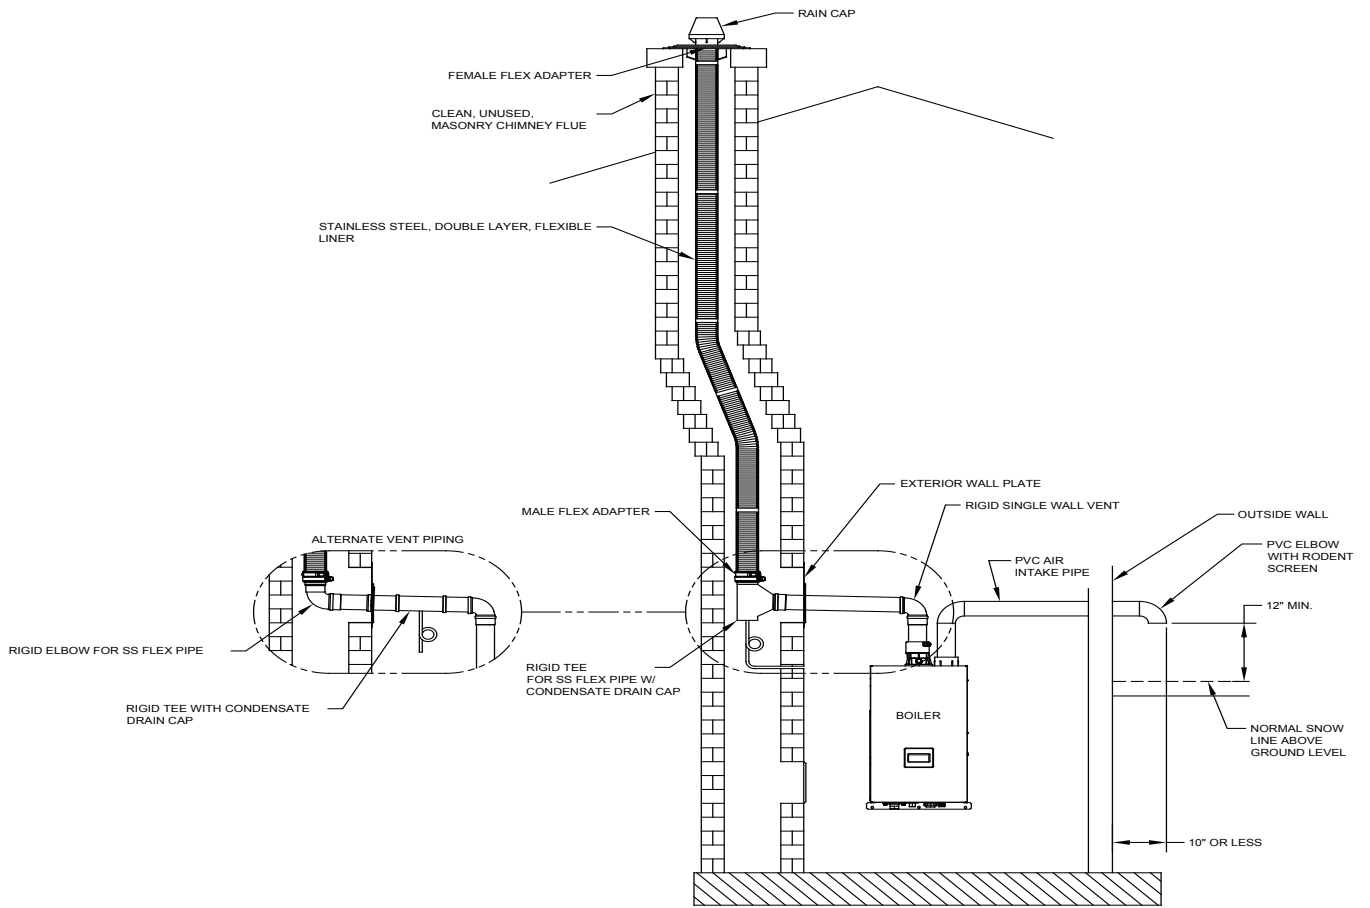

Figure 7.25a: Split Vent Systems (SS Flex in Abandoned Masonry Chimney) (Vent Option 18)
5. Use of abandoned chimney as vent chase for flexible Stainless Steel venting (option 18) - Vent option 18 permits flexible Stainless Steel venting to be routed to the roof using an abandoned masonry type chimney. In this application, combustion air is drawn horizontally from a wall terminal. See Figure 7.25a. When using one of these options, observe the following requirements: